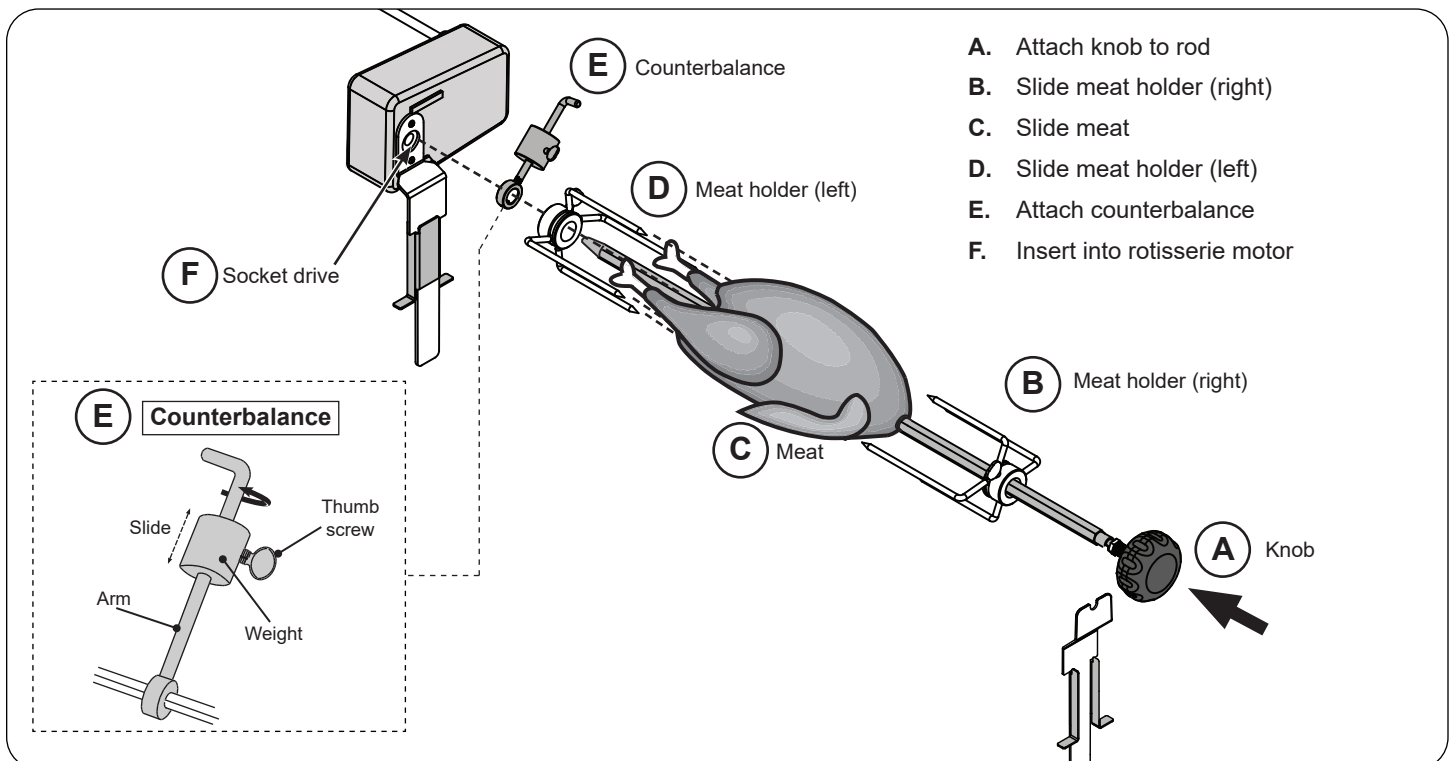

Fig. 3-2 Set up rotisserie rod
5. Follow steps A-D as shown in Fig. 3-2 to set up the rotisserie rod for rotisserie cooking.
6. For uneven weight distribution, a counterbalance is included for optional use. Follow the steps below when installing the counterbalance (see Fig. 3-2, E):
7. Insert the pointed-end of the rod into the motor drive socket (see Fig. 3-2, F) and rest the handle-end of the rod onto the opposite bracket.
- Loosen the thumb screw and slide the weight along the counterbalance arm until the rod rotates most evenly for proper weight distribution as applicable. Then tighten the thumb screw. See Fig. 3-2, E.